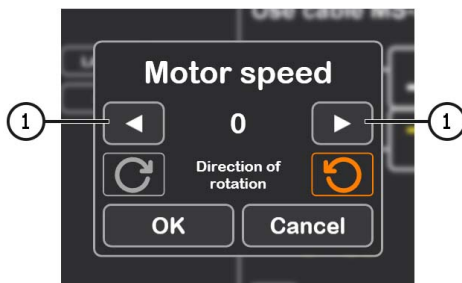

Figure 26
3.1. After activating the diagnostics mode, a preliminary alternator check window will open, see Figure 26.
3.2. Using the alternator drive control buttons (see item 1 in Figure 26), set the speed of the alternator pulley rotation within the range of 100 to 150 rpm.
4. After clicking the "Automatic test" button, a preliminary alternator check window will appear, see Figure 26.
- 4.1. Using the alternator drive control buttons (see item 1 in Figure 26), set the speed of the alternator pulley rotation within the range of 100 to 150 rpm.
3. Before activating the diagnostic mode, a preliminary alternator check window will appear, see Figure 26.
- 3.1. Using the alternator drive control buttons (see position 1 in Figure 26), set the alternator pulley rotation speed within the range of 100 to 150 rpm.